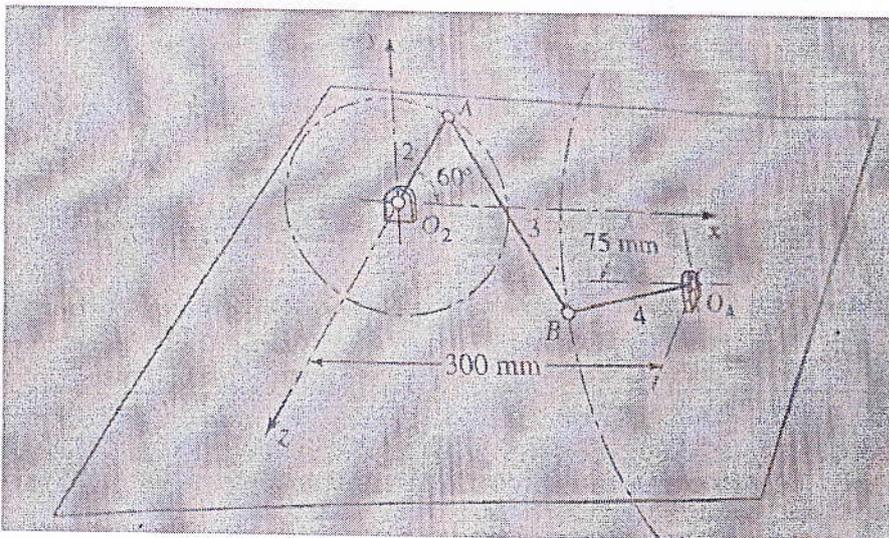

Fig. 4
- c) The angular velocity of link 2 of the four bar chain O_2ABO_4 is 20 rad/sec cw uniform. Find the angular velocities and angular accelerations of link 3 and link 4 and the velocity of point B for the positions shown in fig.4. $O_2A = 100$ mm, $AB = 380$ mm, $BO_4 = 250$ mm. 20 L₄ CO6